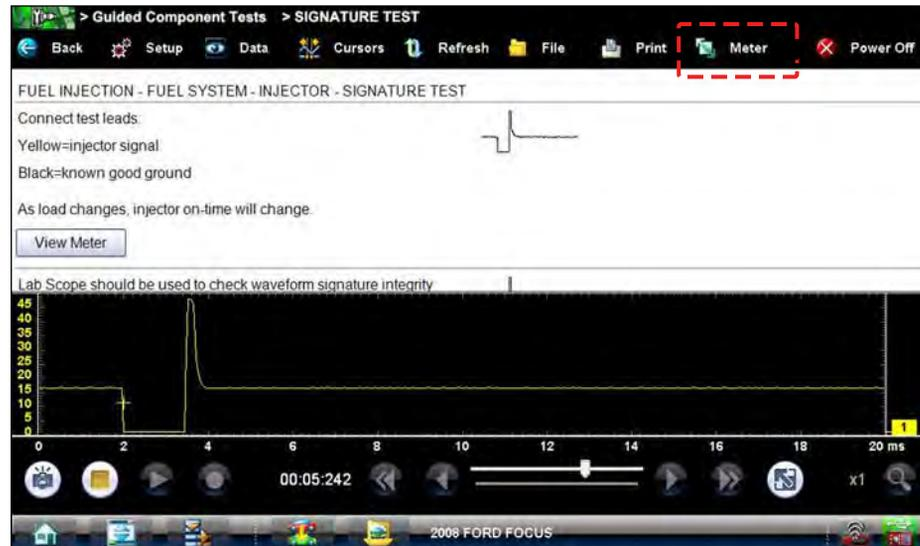

Figure 7-9 Sample view meter window
- **View Meter**—opens a live meter set up to perform the test in the lower portion of the screen (Figure 7-9). Once the meter view is open, the Guided Component Test toolbar at the top of the screen is replaced by the Scope Multimeter toolbar, which allows you to make adjustments to the settings. See Scope Multimeter Toolbar on page 78 for details.
A Meter icon, which is only available in the Guided Component Test view meter mode, appears on the upper toolbar (Figure 7-9).
1. With View Meter active (Figure 7-9), select the **Meter** icon on the toolbar once and the meter expands to fill the entire screen.
3. Select the **Meter** icon a third time to close the separate window and return to the standard meter view as shown in Figure 7-9.